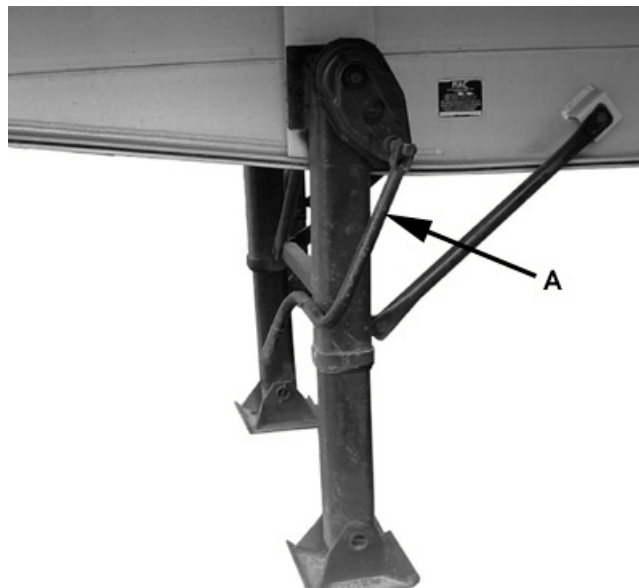

Figure 6-1 Two Speed Landing Gear
4. MAC Trailer uses a two speed landing gear from several different manufacturers. High speed may be “in” on some models and “out” on others. High speed is used only when landing gear is off the ground. Engage the crank handle (A) and lower the landing gear until it makes firm contact with the ground, blocks or pads. Switch to low gear and crank an additional 4-8 turns. See figure 6-1.